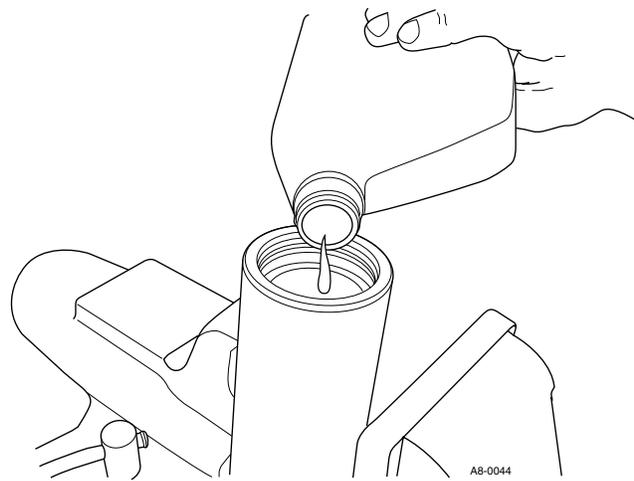

Figure 12. Filling Cavity
- k. Fill cavity with 10W-40 oil until the last spring is just totally covered (See Figure 12). Do not overfill as this will cause problems with the regulating accuracy and may result in over pressurization.